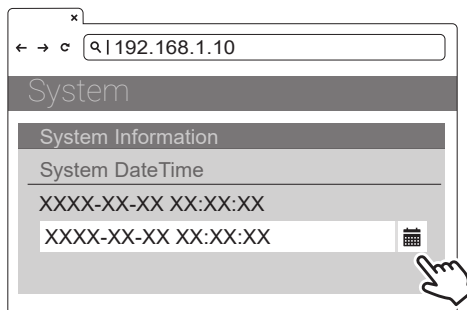

Figure 42. Select Date/Time
- 4) Select the calendar button on the right of set the current date and time. See Figure 42.